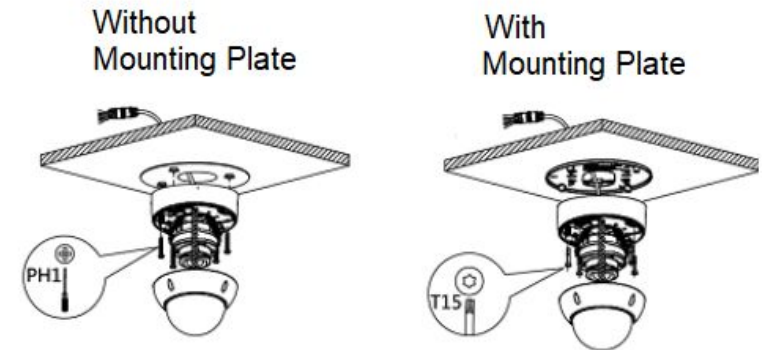

Figure 2-4
**Step 4** Remove the dome from the camera body. Thread and connect the necessary wires through the cable exit. If you are not using the mounting plate, use the Phillips head screws to mount the camera body to the anchor screws. If you have the mount installed, use the supplied T15 screws to mount the camera body to the mounting plate. See Figure 2-4.